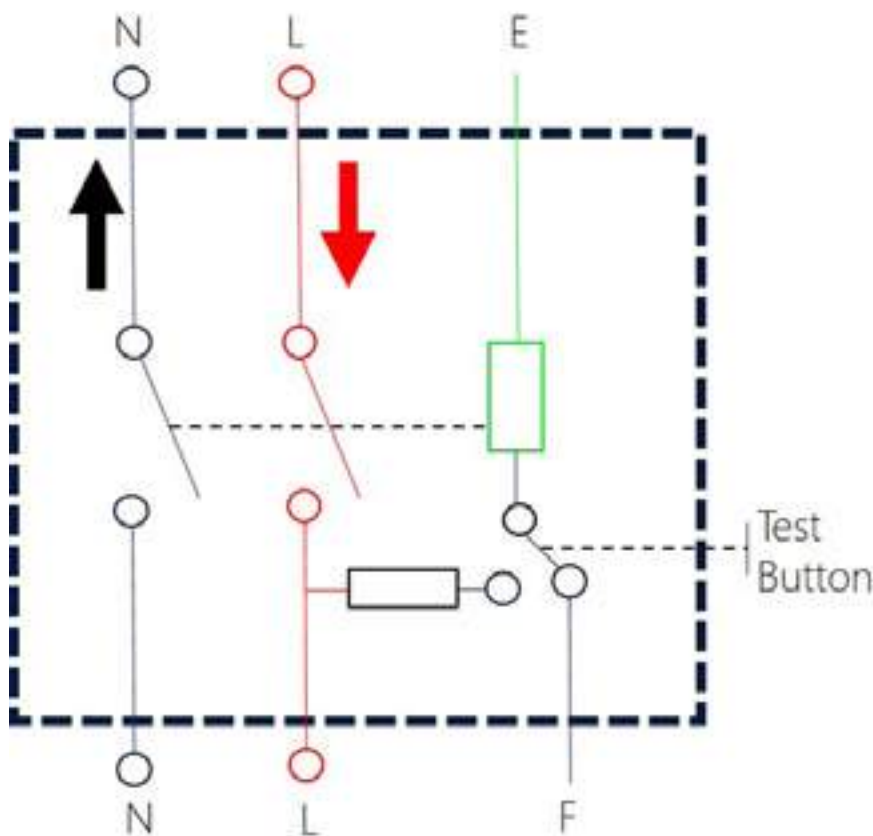

Figure 2. Diagram of an Earth Leakage Circuit Breaker (ELCB).
Getting a licenced electrician to upgrade the protection on your electrical circuits to Earth Leakage Circuit Breakers (ELCBs) will mean this never happens to your family. ELCBs are also known as Residual Current Devices (RCDs). When electrical current flows, it creates a magnetic field. The more current, the bigger the magnetic field. So when current flows through the active side (L) of an ELCB, the same current (magnetic field) must be on the negative line (N) of the ELCB or it'll trip (Figure 2).